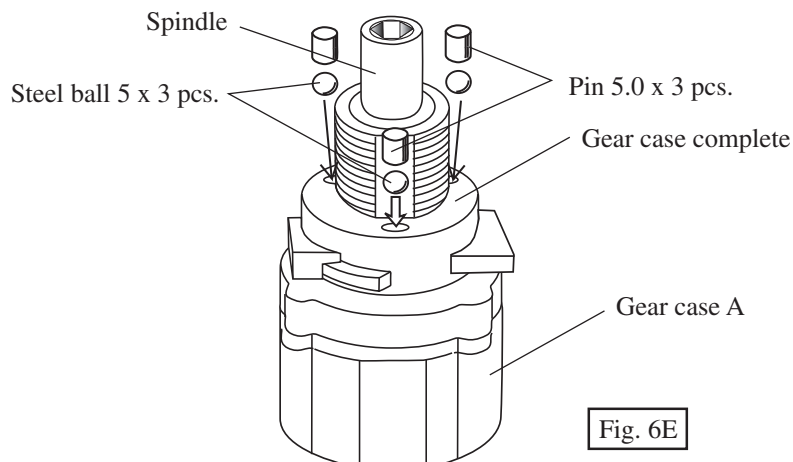

Fig. 6E
4) Insert 3 pcs. of steel balls 5 into the 3 holes of gear case complete, and then insert 3 pcs. of pin 5.0 into the same holes as illustrated in Fig. 6E.